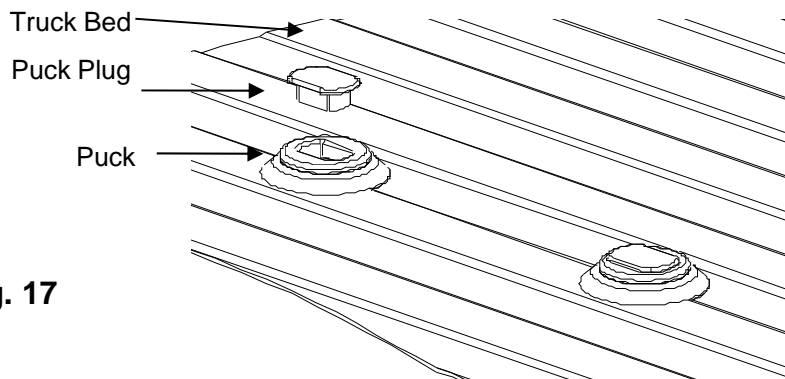

Fig. 17
1. Remove puck plugs from all (4) of the pucks in the truck bed (Figure 17) and store for use when hitch is removed.
4. Press puck plugs (packed with mounting kit) into all (4) of the pucks in the truck bed to keep debris out of pucks. Figure 17.